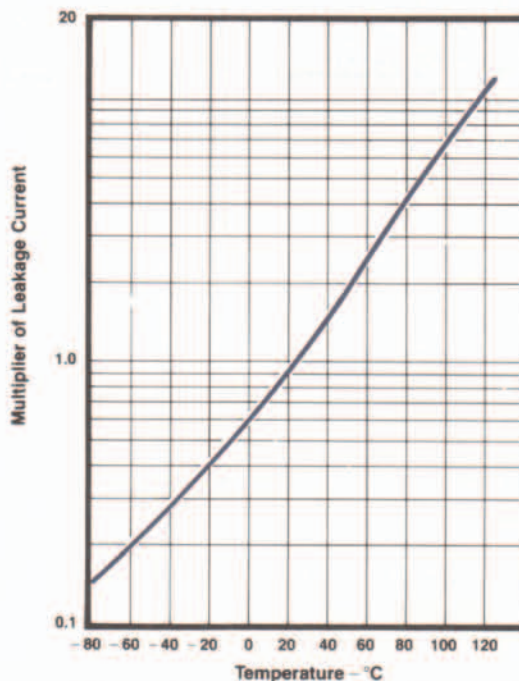
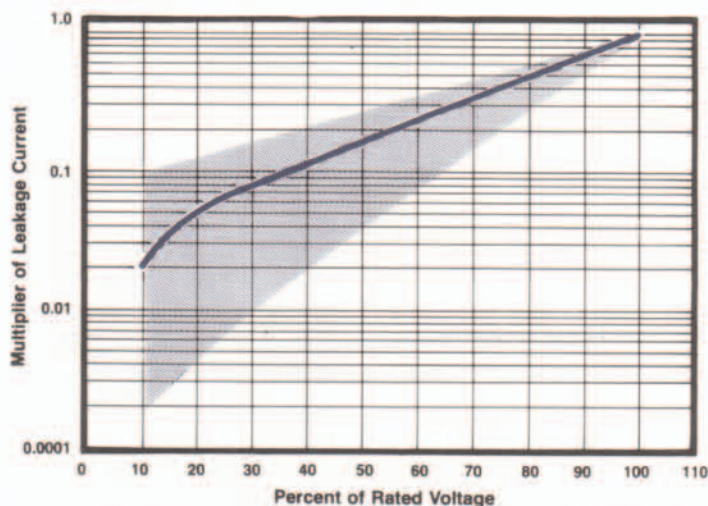

FIG. 3 TYPICAL EFFECT OF TEMPERATURE UPON LEAKAGE CURRENT
FIG. 4 TYPICAL EFFECT OF VOLTAGE UPON LEAKAGE CURRENT
**DC Leakage Current** — The DC Leakage current limits of Table 1 for T220 Series capacitors are the lowest generally specified in the solid tantalum industry. Even lower leakage currents are available on special order. Low leakage current, aside from its intrinsic value, is an indication of anode quality. DC leakage current as a function of temperature is represented by the typical curve in Figure 3, while similar information pertaining to leakage behavior with respect to voltage is contained in Figure 4.